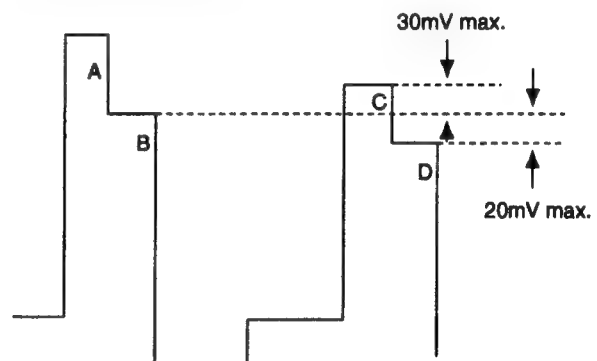

Fig. 5-13
3. Connect the probe of an oscilloscope to IC404 ⑩ PIN or TP401.
5. Adjust **R-Y LEVEL COMPONENT** so that the peaks of waveforms will be flush with each other as shown in Fig.5-13.